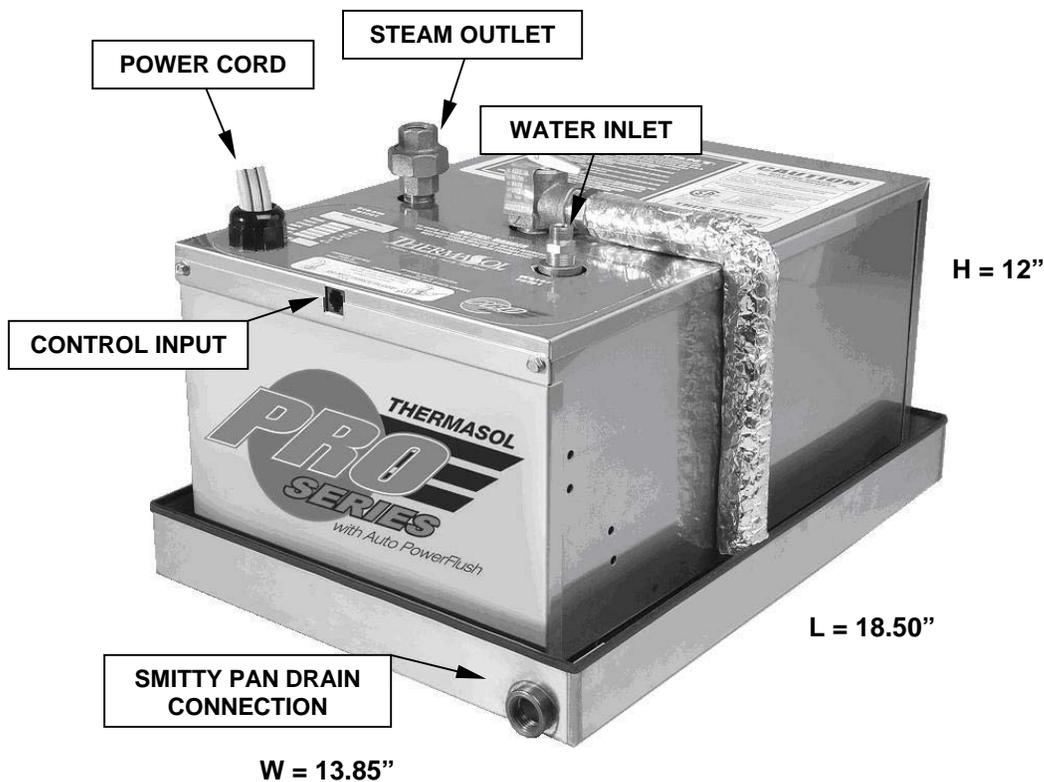

Figure 1
5. The generator must be upright, accessible and on a level surface with all connections on top. Access panel must be unobstructed and allow for easy access. See Figure 1.